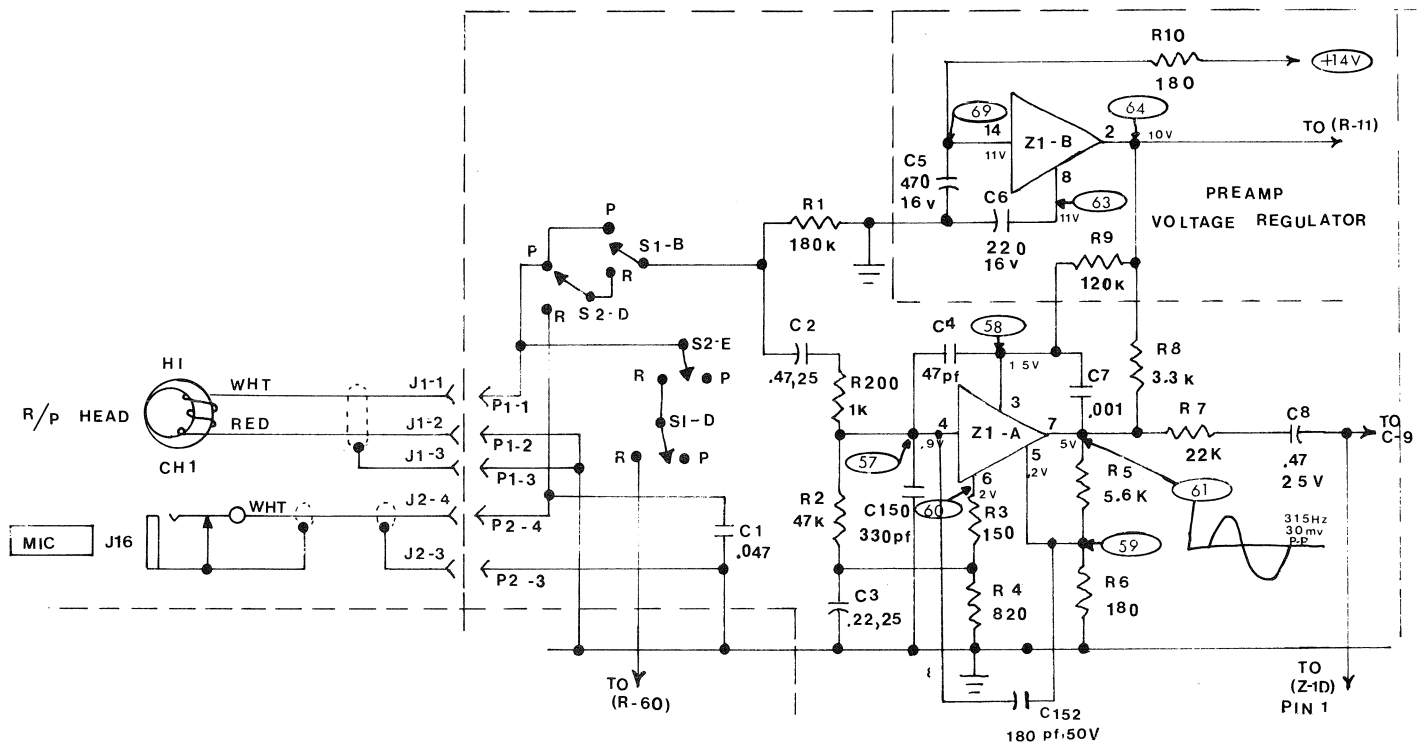

Figure 4-30. Audio Preamplifier and Voltage Regulator
Unlike the Audio Amplifier in the 3320 and 3330 Models, which uses discrete (Individual) components, the Audio Amplifier in the 3350 Models employs an Integrated Circuit Chip as a Preamplifier (Z-1A) and Equalizing Amplifier (Z-1C) (Figures 4-30 and 4-31). Voltage Regulator (Z-1B) provides a regulated +10 volt supply for these two stages of amplification to improve the signal-to-noise ratio when they are used in the record mode.
(Record and Play buttons depressed and the Microphone plugged in). All contacts of the Record switch (S-1) and the Microphone switch (S-2) transfer from the Play (P) position to the Record (R) position. (Audio recording cannot be accomplished unless both (S-1) and (S-2) are operated.) Contacts (S-1B) and (S-2D) switch the input of (Z-1A) from the Play/Record head (H-1) to the Microphone jack (J-16) (Figure 4-30). Contacts (S-1F) and (S-2F) change the equalization of the Equalization Amplifier (Z-1C) from Playback to Record Equalization and also feed the output of (Z-1C) to the Record Signal Detector (Q-1) and the Play/Record Head through (C-25), (R-60) and Switch contacts (S-1D) and (S-2E) (Figures 4-30, 4-31; and full schematics).